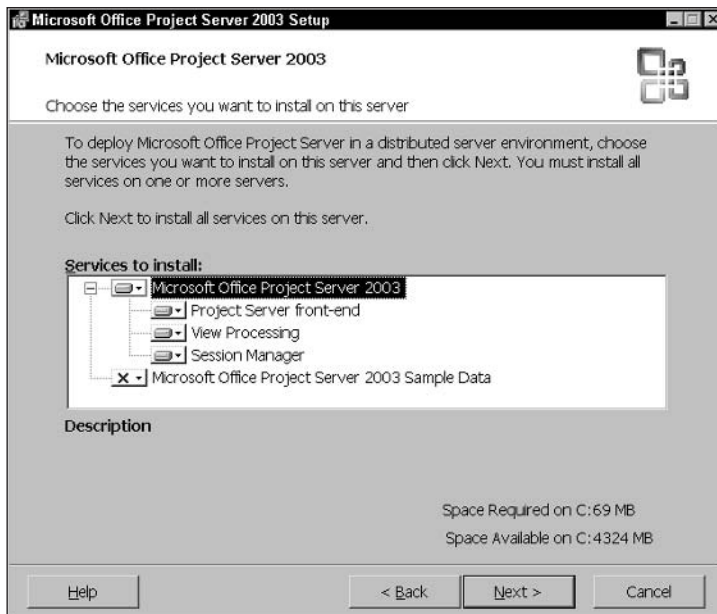

Figure 18-25: You can choose the components of Project Server that you want to install.
5. On the Choose the services you want to install on this server page (see Figure 18-25), click Next.